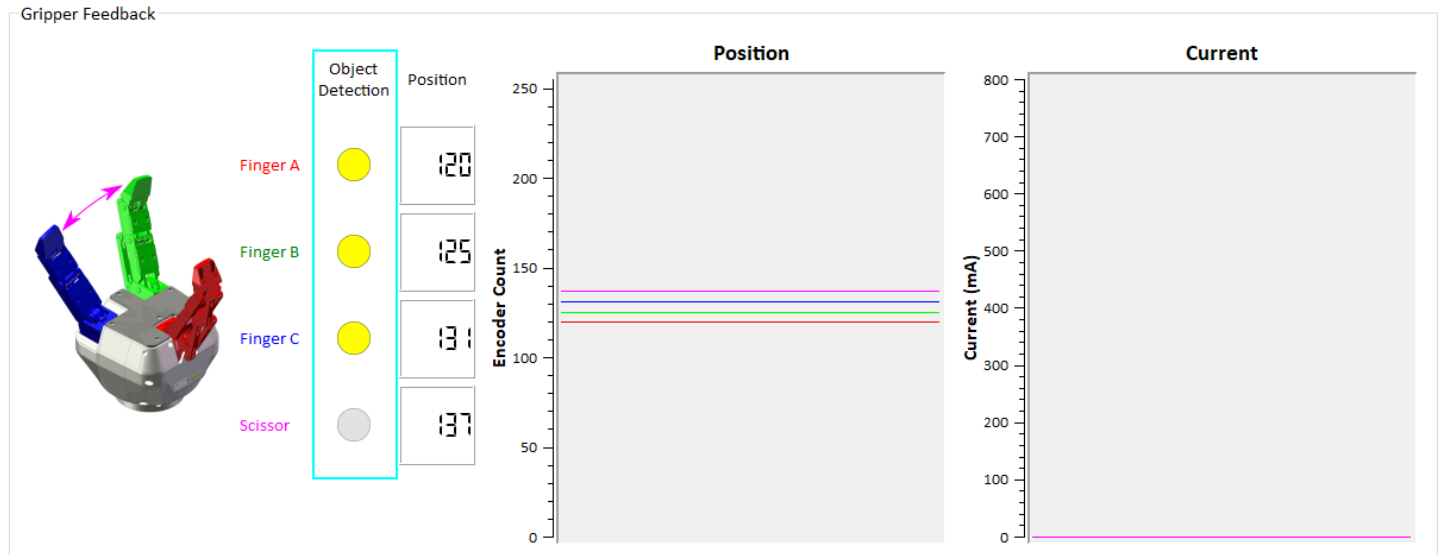

Fig. 5-4: Positive object detection is registered when the object detection dot turns yellow.
- **Object Detection:** If the Gripper detects a contact with an object when closing, the "Object Detection" display turns yellow on the corresponding finger (see Fig. 5-4:). Object detections are displayed independently for each of the three fingers and the scissor axis.